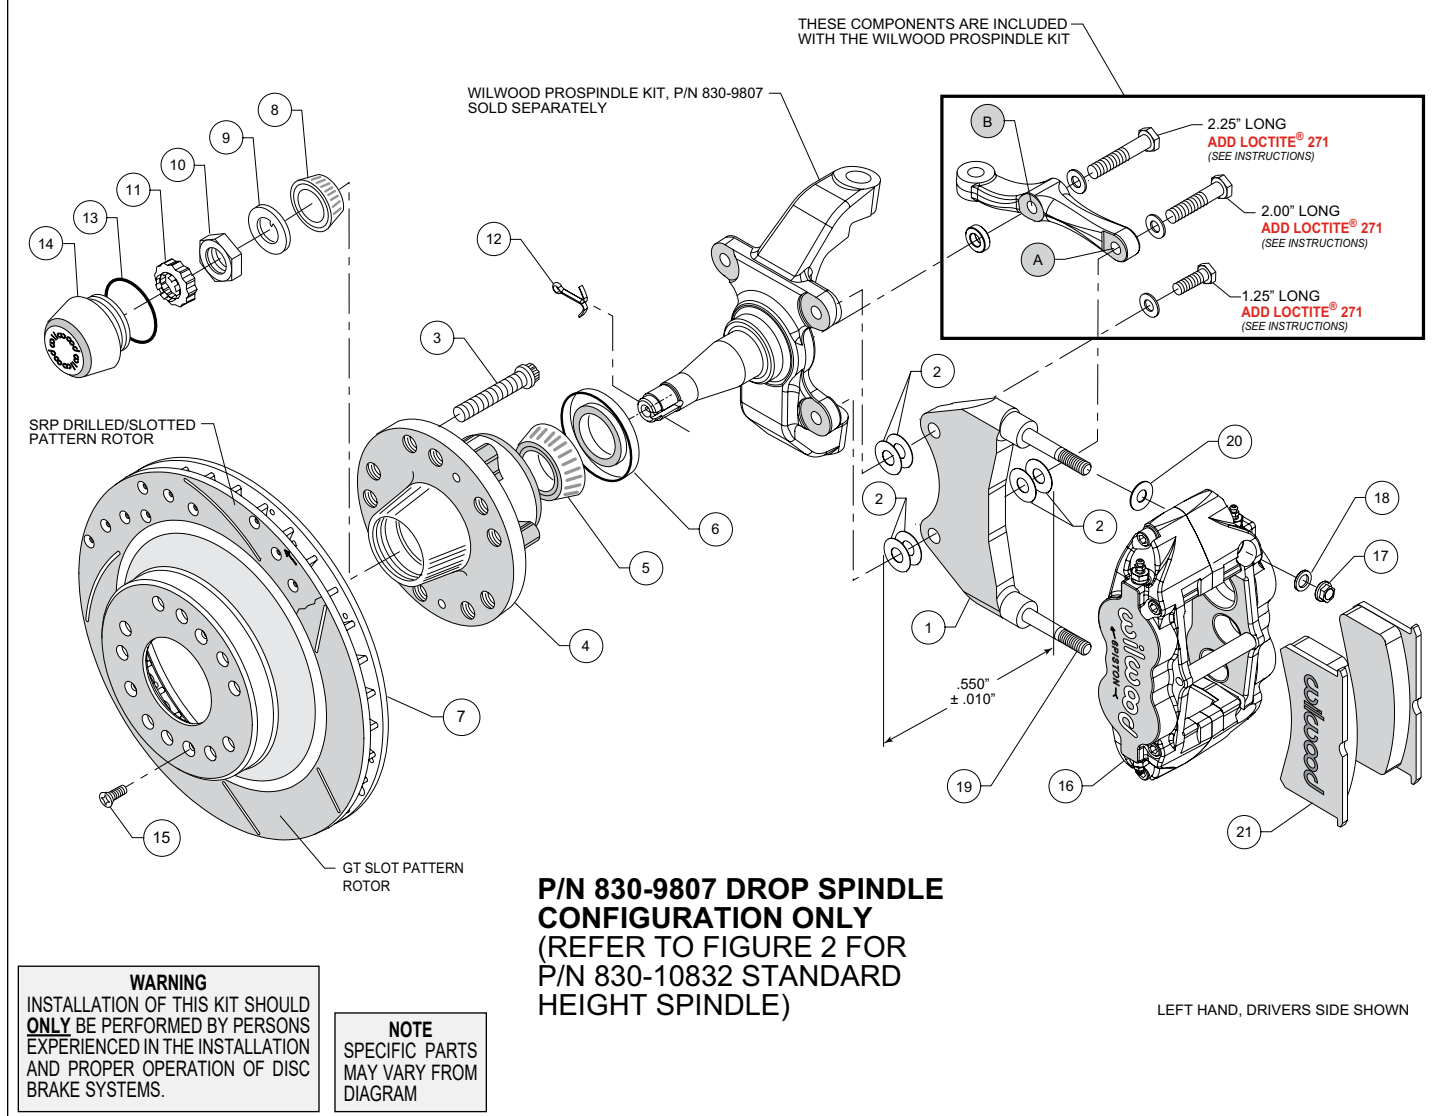

Figure 1. Installation Configuration For Drop Spindle, P/N 830-9807
Assembly Instructions (numbers in parenthesis refer to the parts list and Figures 1 or 2 on the preceding pages):
- NOTE:** Each Wilwood ProSpindle kit includes bolts, washers, and a spacer to mount the steering arm and caliper bracket. The various bolts are identified by length in the following instructions and in Figures 1 and 2.
- Orient the bracket as shown in Figure 1 and Photo 1. Install at top spindle hole using 1.25" long bolt and .06" thick washer (from ProSpindle kit), and two .016" thick shims (2) between the bracket and spindle, Figure 1.
- Orient the steering arm, and identify the hole marked 'A', as shown in Figure 1. Install at bottom spindle hole using 2.00" long bolt and .06" thick washer (from ProSpindle kit), two .016" thick shims (2) between the bracket and steering arm, and another two .016" thick shims (2) between the bracket and spindle, Figure 1. The bracket is located between the steering arm and spindle. **NOTE:** The bracket and shim washers must add up to a total thickness of .550" \pm .010", Figure 1.
- Finish attaching the steering arm through the hole marked 'B', as shown in Figure 1. Install using 2.25" long bolt, .06" thick washer, and .25" thick spacer (all from ProSpindle kit), Figure 1.
- Pack the large inner bearing cone (5) with high temperature disc brake bearing grease (available from your local auto parts store) and install into the backside of the hub (4), Photo 4.
- Install the grease seal (6) by pressing into the backside of the hub (4), Photo 4.
- Pack the small outer bearing cone (8) with high temperature disc brake bearing grease and install into hub (4). Slide the hub assembly onto the spindle. Secure using spindle washer (9) and spindle nut (10), Photo 5. Bearing adjustment: Tighten the nut while turning the hub. When there is a slight bind on the bearings, they are seated correctly. Back the nut off about 1/6 to 1/4 of a turn, or sufficiently to allow .001" to .007" end play. **WARNING:** Failure to back off adjusting nut could cause bearing to run hot and be damaged, which could cause the wheel to lock or come off. Install spindle nut retainer (11) and cotter pin (12).
- Screw dust cap (14) into hub (4), Photo 6. Friction created by the o-ring (13) on the dust cap keeps it from unscrewing.
- Slide the hat/rotor (7) onto the hub (4) taking care to align the small countersunk holes in the hat with the small threaded holes in the hub. **NOTE:** The hat must fit flush against the hub face or excessive rotor run out may result. Install three flat head screws (15) through the small holes in the hat (7), Photo 6, and torque to 85 in-lb.
- NOTE:** This kit contains distinct right and left hand calipers that must be mounted in a specific direction, as described below. Initially place one .035" thick shim (20) on each stud (19) as shown in Figure 1 or 2, and Photo 7. Mount the caliper (16) onto the bracket (1) using lock nuts (17) and washers (18), Figure 1 or 2. Ensure that the caliper is mounted so that the largest pistons are at the rotor exit end of the caliper, in relation to the direction of rotor rotation. Temporarily tighten the lock nuts and view the rotor through the top opening of the caliper. The rotor should be centered in the caliper, Photo 8. If not, proceed as follows:
- Adjust by adding or subtracting shims (2) between the bracket and the spindle. Always use the same amount of shims on each of the two bolts between bracket and spindle.
- For the lower bracket mount bolt, if a shim was added between the bracket and spindle, then a shim must be removed between the steering arm and bracket, such that the total thickness of bracket and shims remain equal to .550 ± .010", Figure 1.